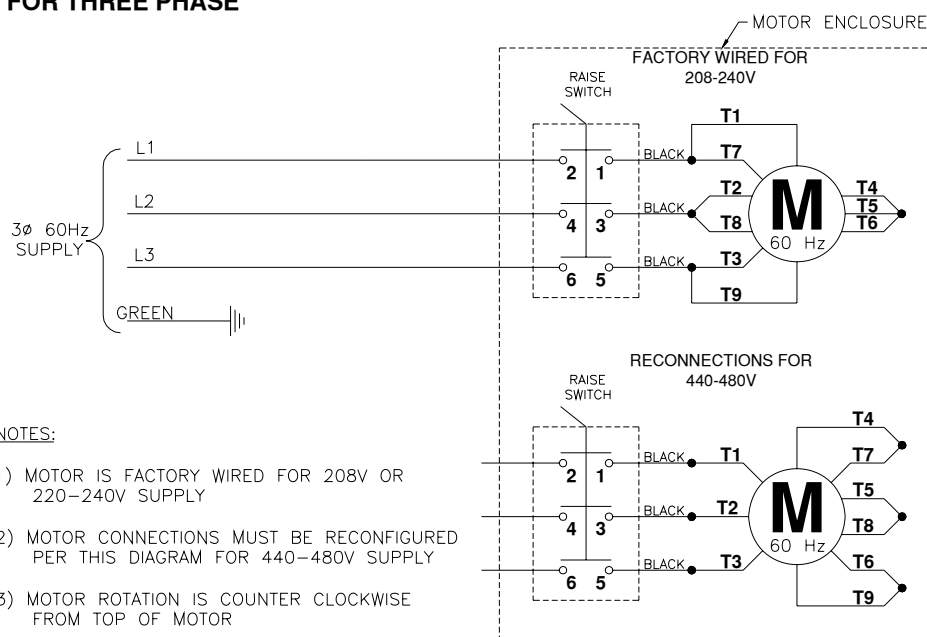

Fig. 7
16. Connect the power unit to a dedicated 25 Amp electrical branch circuit, using wiring methods prescribed by local codes. Refer to Figure 7.